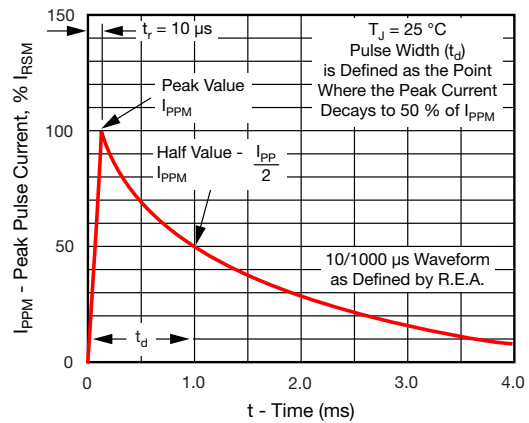
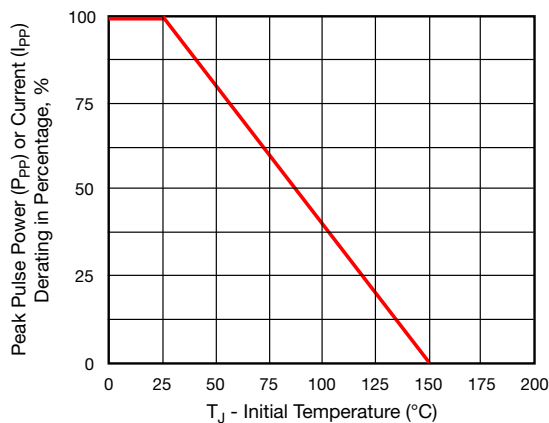

Fig. 3 - Pulse Waveform
Fig. 2 - Pulse Power or Current vs. Initial Junction Temperature
⁽¹⁾ Non-repetitive current pulse, per fig. 3 and derated above $T_A = 25\text{ °C}$ per fig. 2. Rating is 300 W above 78 V
- (1) Pulse test: $t_p \leq 50$ ms
- (2) Surge current waveform per fig. 3 and derate per fig. 2
- (3) For bi-directional types having V_{WM} of 10 V and less, the I_D limit is doubled
- (4) All terms and symbols are consistent with ANSI/IEEE C62.35
- (5) For the bi-directional SMAJ5.0CA, the maximum V_{BR} is 7.25 V
- (6) $V_F = 3.5$ V at $I_F = 25$ A (uni-directional only)